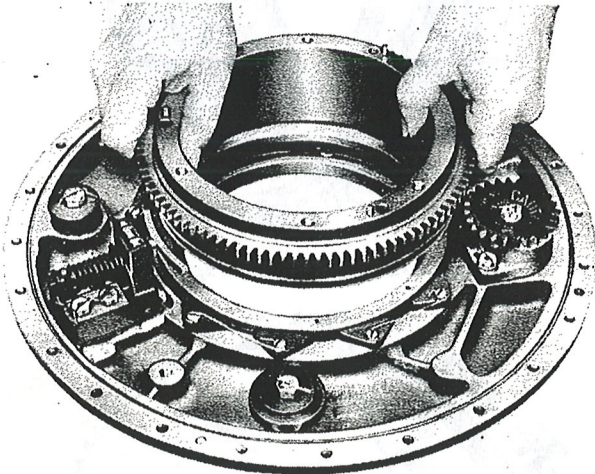

Figure 144—Installing Pump Power Gear
(7) Lubricate the housing seal and housing bearing with regulator fluid.
(8) Install the pump power gear assembly into the housing. First slide the regulator control ring over the shoe of the governor. Then move the pump power gear assembly until it aligns with the housing bearing. Lower the pump power gear in place, meshing the teeth of the gear with the pump drive gear. Press the gear down with a twisting motion, making certain the seal is up over the gear and the gear is against the housing washer. (See figure 144.)